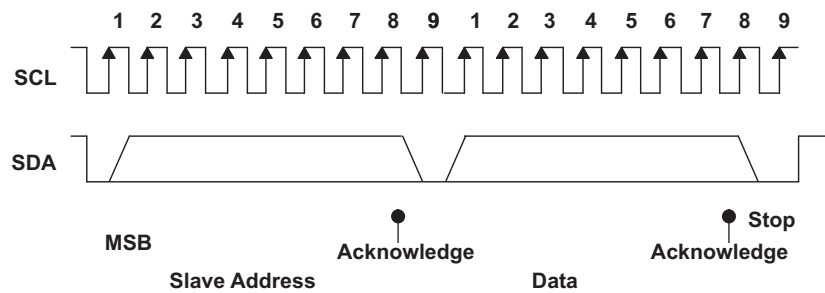

Figure 73. I2C Address and Data Cycles
- The master generates further SCL cycles to either transmit data to the slave (R/W bit 1) or receive data from the slave (R/W bit 0). In either case, the receiver needs to acknowledge the data sent by the transmitter. So, an acknowledge signal can either be generated by the master or by the slave, depending on which one is the receiver. The 9-bit valid data sequences consisting of 8-bit data and 1-bit acknowledge can continue as long as necessary (See Figure 73).